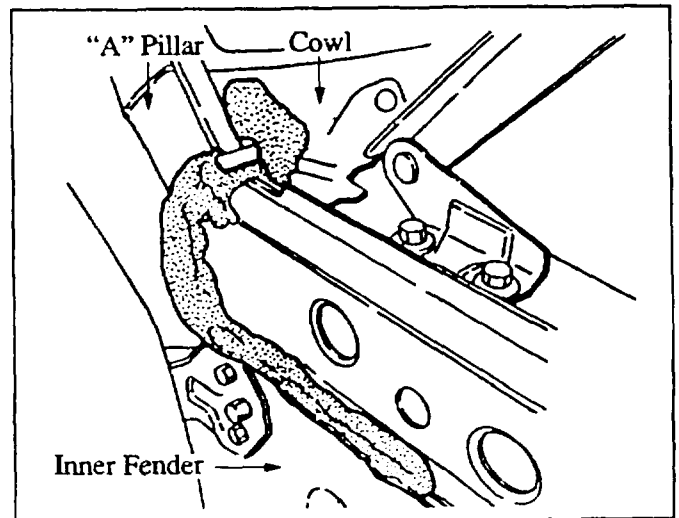

Figure 9: View of Adequate Body Sealer
1. Lift carpet and pad, and feel for water. If water is present, remove windshield wipers and cowl plate. Check for missing sealer or holes among the lower "A" pillar-to-cowl seam. Apply sealer to any suspected areas. **Figure 9.**
2. Remove the door jamb nut and bolt, also remove the four (4) upper fender bolts. Using a mechanics mirror, inspect sealer hidden by the upper fender for skips and pinholes. **Figure 9.**